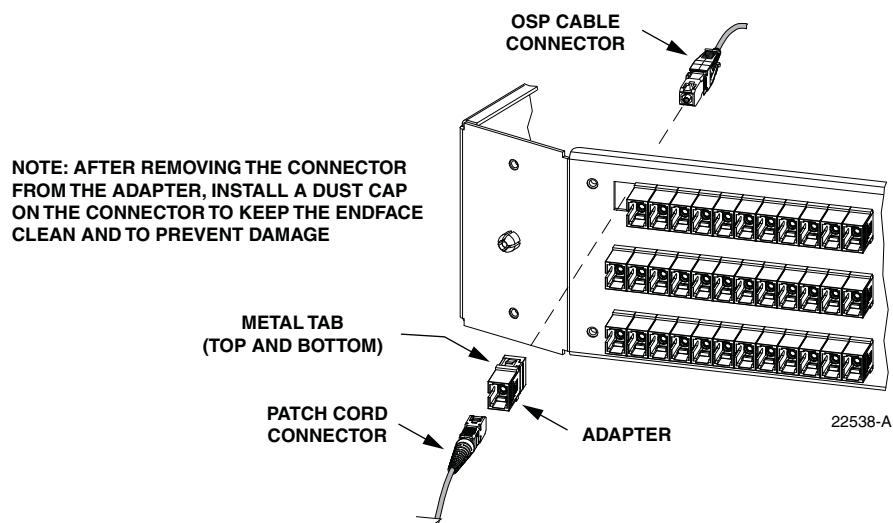

Figure 27. Adapter Removal and Replacement
1. Disconnect the jumper patch cord connector from the front side of the broken adapter as shown in Figure 27 and install a dust cap on the connector.